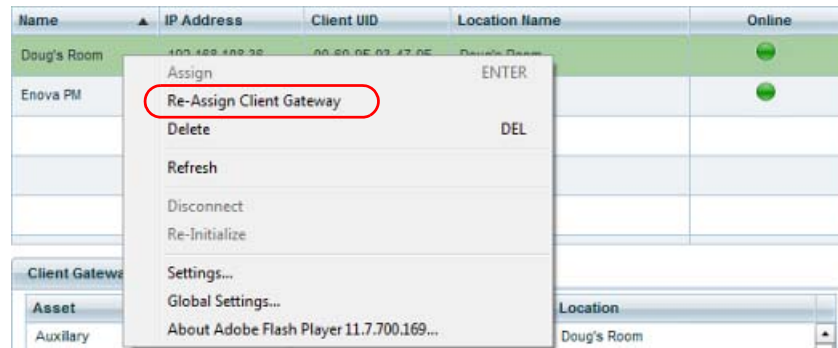

FIG. 155 Client Gateways Table - context menu (Re-Assign Client Gateway)
1. In the Client Gateways window, right-click on any assigned Client Gateway to access the context menu (FIG. 155).